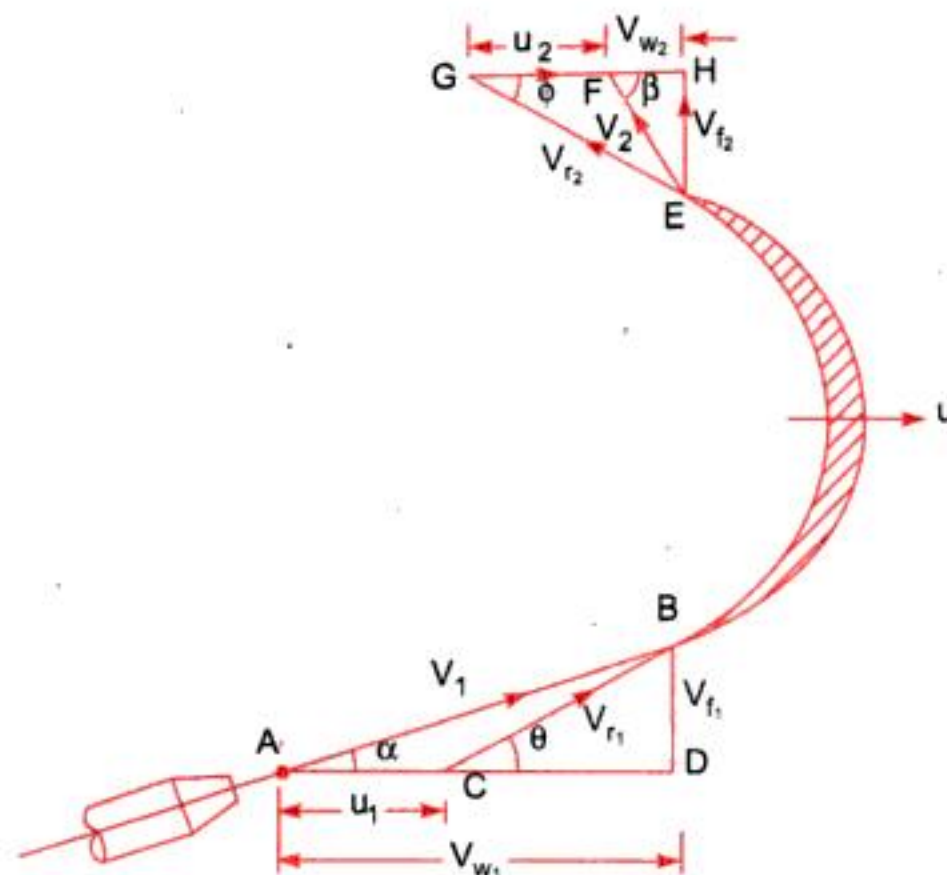

Fig. 17.15 Jet striking a moving curved vane at one of the tips.
**17.4.4 Force Exerted by a Jet of Water on an Un-Symmetrical Moving Curved Plate when Jet Strikes Tangentially at one of the Tips.** Fig. 17.15 shows a jet of water striking a moving curved plate (also called vane) tangentially, at one of its tips. As the jet strikes tangentially, the loss of energy due to impact of the jet will be zero. In this case as plate is moving, the velocity with which jet of water strikes is equal to the relative velocity of the jet with respect to the plate. Also as the plate is moving in different direction of the jet, the relative velocity at inlet will be equal to the vector difference of the velocity of jet and velocity of the plate at inlet.